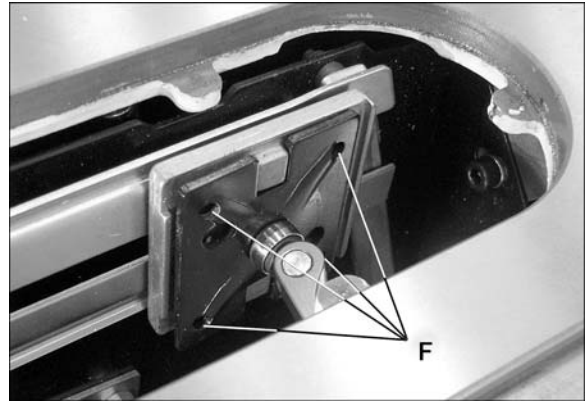

Figure 11
5. If knife and blade are not flush, note the direction in which riving knife needs to move to align. Remove riving knife and adjust any of four set screws (F, Figure 11).